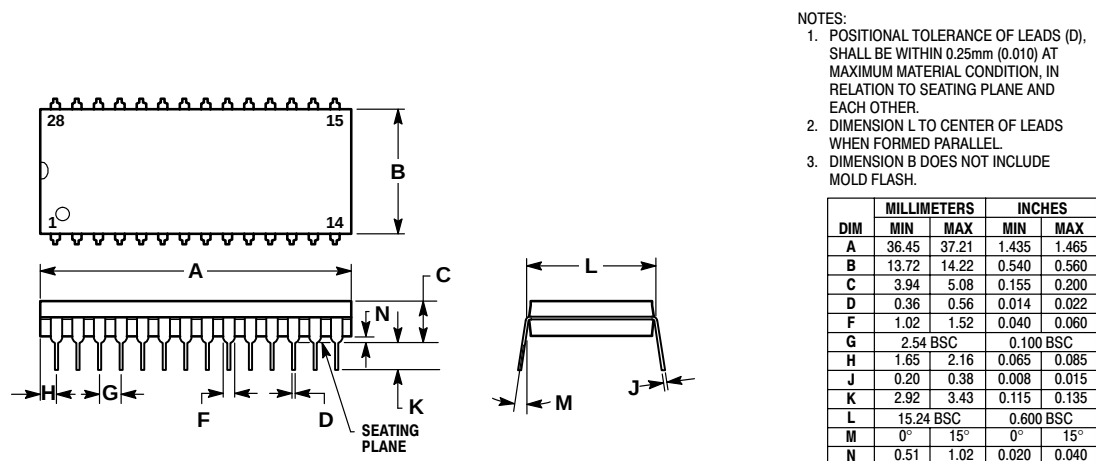

Figure 20. Plastic 28-Pin DIP (Case 710)
- Plastic 28-pin DIP, Figure 20